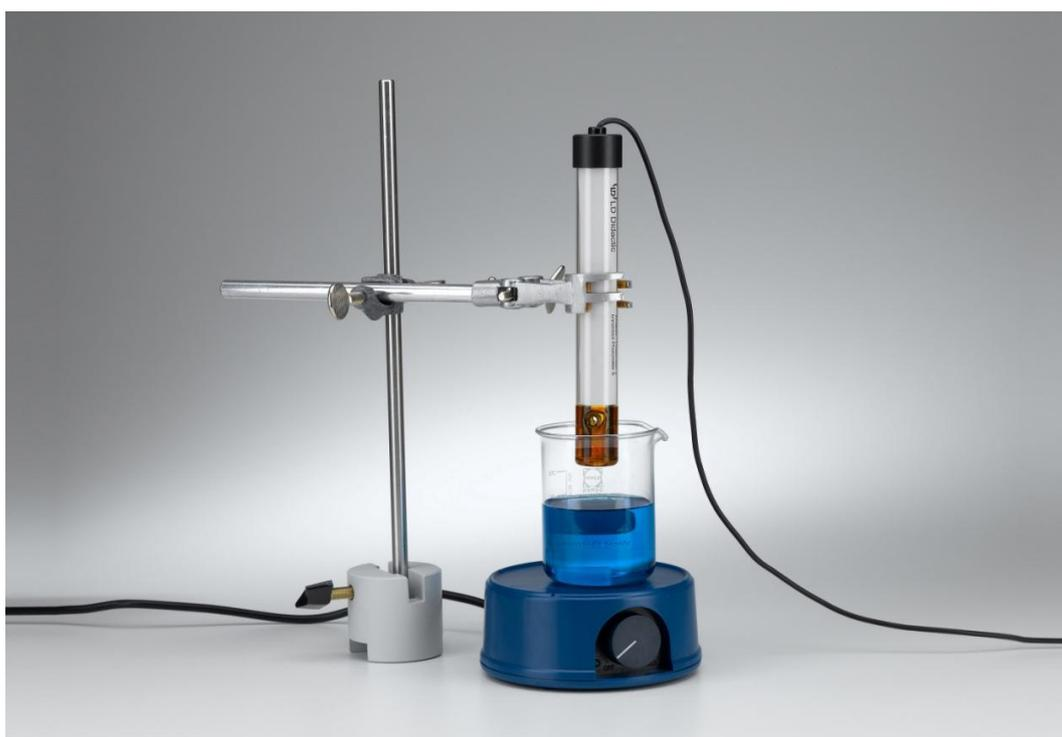

Fig. 1: Set-up of the experiment.
For the photometric measurement, set up an apparatus consisting of a magnetic stirrer, stand material and an immersion photometer (see Fig. 1). Prepare three beakers with a stirring magnet. Connect the Peleus ball to the graduated pipette. Using this, add the sodium hydroxide solution to the reaction mixture.
b. Immerse the immersion photometer S into the solution and fix it in place (see Fig. 1). A constant absorbance should be measured (c. 0.8).